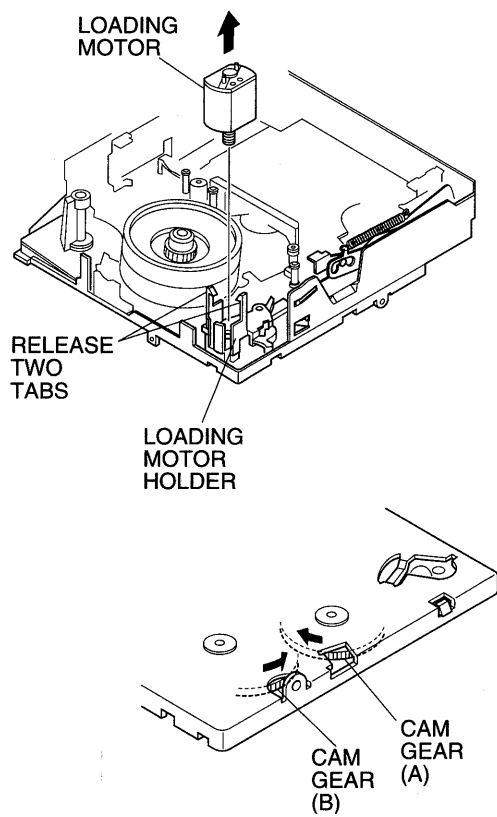

Fig. 3-3
- (11) Release 2 tabs and pull out the loading motor from the loading motor holder. (See Fig. 3-3)
- (12) Turn over the mechanism. (See Fig. 3-3)
- (13) Use a flat-bladed screwdriver, etc. to turn cam gear (A) or (B). (See Fig. 3-3)